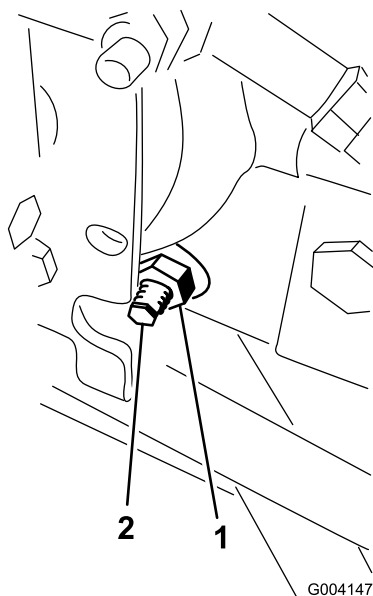

Figure 54
3. On the right side of the hydrostat, loosen the locknut on the traction-adjustment cam (Figure 54).